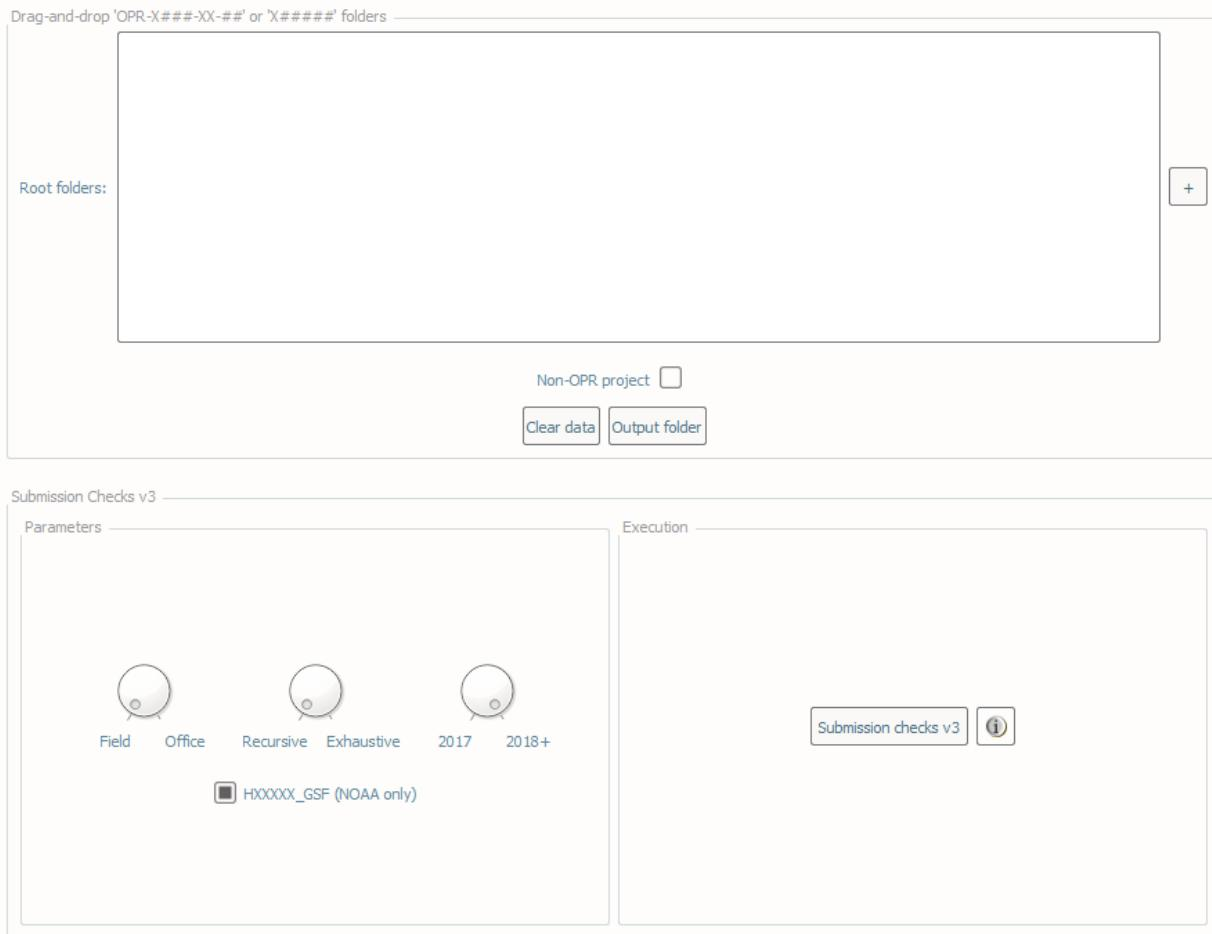

Fig. 2.55: The **Submission check** interface.
- In **Parameters** (Fig. 2.55, left side):
- In **Execution** (Fig. 2.55, right side), click **Submission checks v3**.